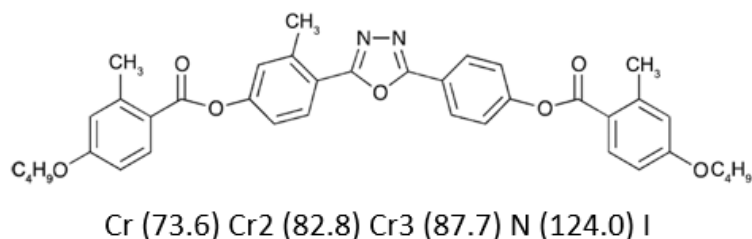

Figure 1: Molecular structures of Bent-core Mesogens (BCM)
- Materials: a specific bent-core mesogen (*Figure 1*)